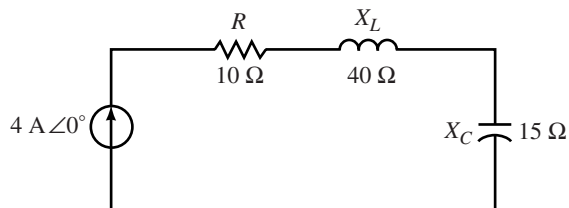

FIGURE 17-38
11. Find the total average power and the total reactive power supplied by the source for Figure 17-38.
12. If the source of Figure 17-38 is reversed, what is P_T and Q_T ? What conclusion can you draw from this?